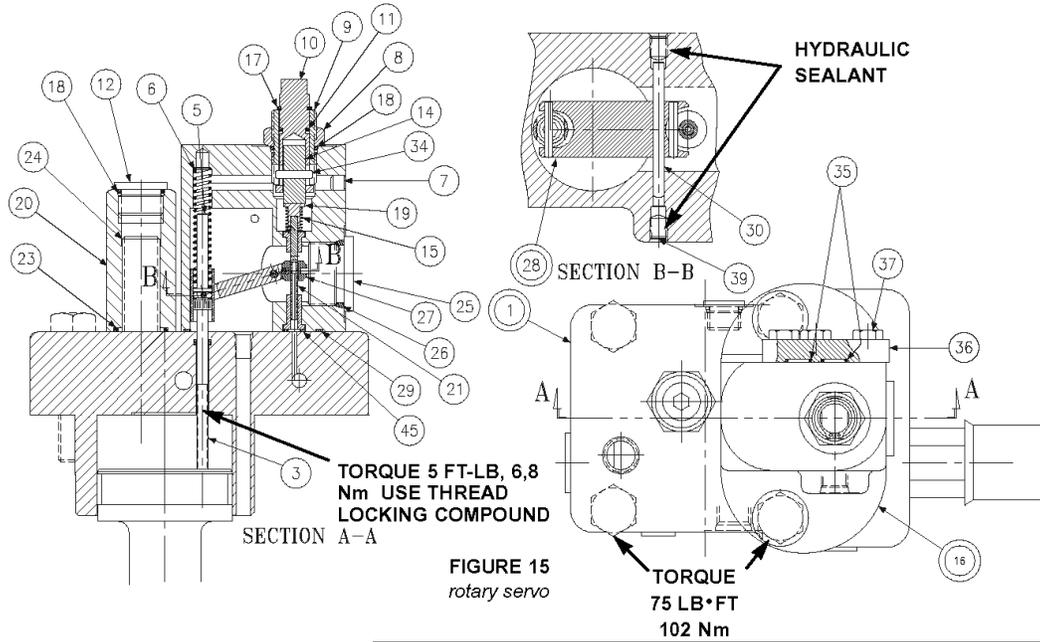

FIGURE 15
**PARTS LIST FOR FIGURE 15**
1. See Figure 15. Remove 2 screws holding body (16) to cap assembly (1).
2. Remove all parts from body (16) except pin (30) and arm assembly (28). It is not necessary to remove these parts unless broken or worn. Examine parts for wear or damage.
3. Remove screw (3). Examine head for excessive wear, and body for smooth sealing surface with O-ring.
2. Install spool (6) into bore as shown. Install spring (11) over end of spool.
3. Install O-ring (8) on spring retainer (7). Install retainer (7), screw (13) and nut (14) in plug (4).
4. Install O-rings (10) and (15) on plug (4). Install plugs (4) and (12) in body (1). Install .047", 1,19 mm orifice (19), and .071", 1,98 mm orifice (20), and plugs (2) and (17). Torque plugs. Install O-ring (21) in cap.
5. Turn screw (13) in until spring retainer (17) contacts spring (11). Turn an additional 1-1/2 turns and lock in position.
8. See Figure 15. Apply thread sealing compound on threads of screw (3), lubricate the shank, thread through the cap into the control piston, and torque to 5 lb.\*ft., 6,78 N m.
9. Install minimum stop screw (24) and turn clockwise to by two springs, one which is always in contact with the pin, and the other comes in contact as pressure increases, to provide an increase in spring rate as pressure increases. Stroke pump to full displacement.. Measure height from control cap to top of screw (3). With control piston at full displacement, dimension must be .74 +/- .03 in., 18,8 +/- 0,76 mm. Back out minimum stop screw (24) till there is no contact with control piston.
10. Press dowel (30) into body (16), through the link (28), to 1/4 in., 6,35 mm below surface. Apply hydraulic sealant to threads of screws (39) and install over dowel (30).
11. Press spool (21) into retainer (19). Caution: do not use excessive force.
12. While sleeve (27) is engaged into dowel on link (28), slide above spool assembly with spring (15) into bore of body (16), and through sleeve (27). Spool (21) must move freely and easily at all positions of the link (28).
13. Press dowel (34) through slide pin (14), while inside shaft (10). Dowel (34) must evenly extend from both sides of slide pin (14).
14. Assemble all other components into body (16) per Figure 15. Torque plug (12)
15. While spring retainer is engaging clevis pin (5) under dowel of link (28), slide the other opening of spring retainer over the top of the screw (3). Attach body assembly (16) to cap (1) with two screws and torque to 75 lb.\*ft., 103 N m.